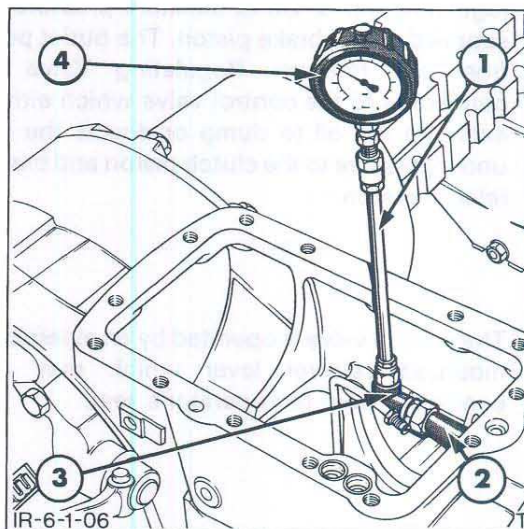

Figure 6
1. Remove the axle top cover assembly, see "REAR AXLE AND BRAKES" – Part 5 and use hose, Tool No. T8503-4 or 1392 to connect the hydraulic lift cover feed to the rear axle sump, Figure 6.
2. Disconnect the control valve to clutch support housing tube from the control valve, Figure 6.
3. Install Adaptor Tool No. FT.4097 or 1221, tube Tool No. FT.4100-1 or 1552 and the Pressure Gauge, Tool No. FT.4100 or 0074 onto the control valve, Figure 6.